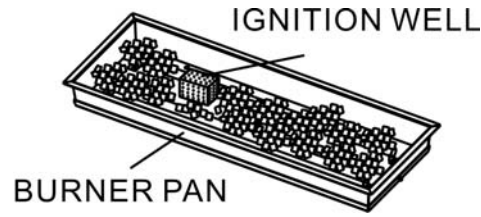

Figure 5
4. Pour ALL of the provided media (fire ice) into the burner pan. Burner MUST be completely covered to ensure appliance function properly and safely. Remove any lava rocks or fire ice on top of the ignition well. See Figure 5.